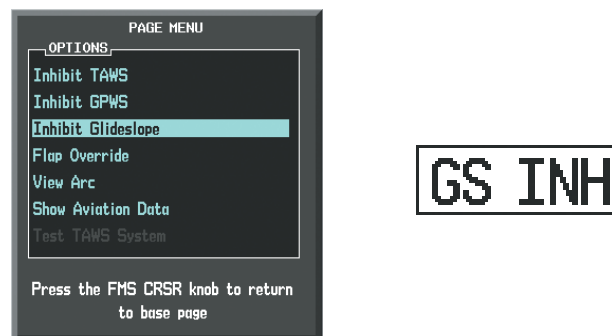

Figure 6-106 TAWS-A Page Menu and Glideslope Alerting Inhibited Annunciation
- 1) Press the **MENU** Key. (Figure 6-106)